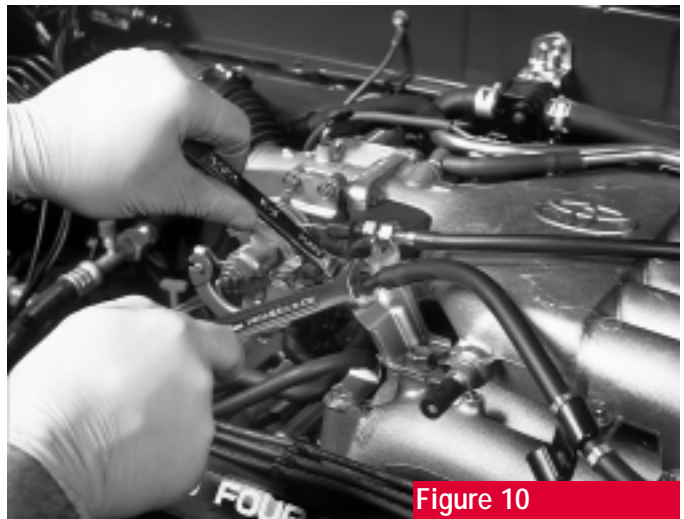

Figure 10
13. Loosen but **don't remove** the cable nuts (**figure 10**). Slide the cables from their brackets and remove the cable ends from the throttle-body levers.